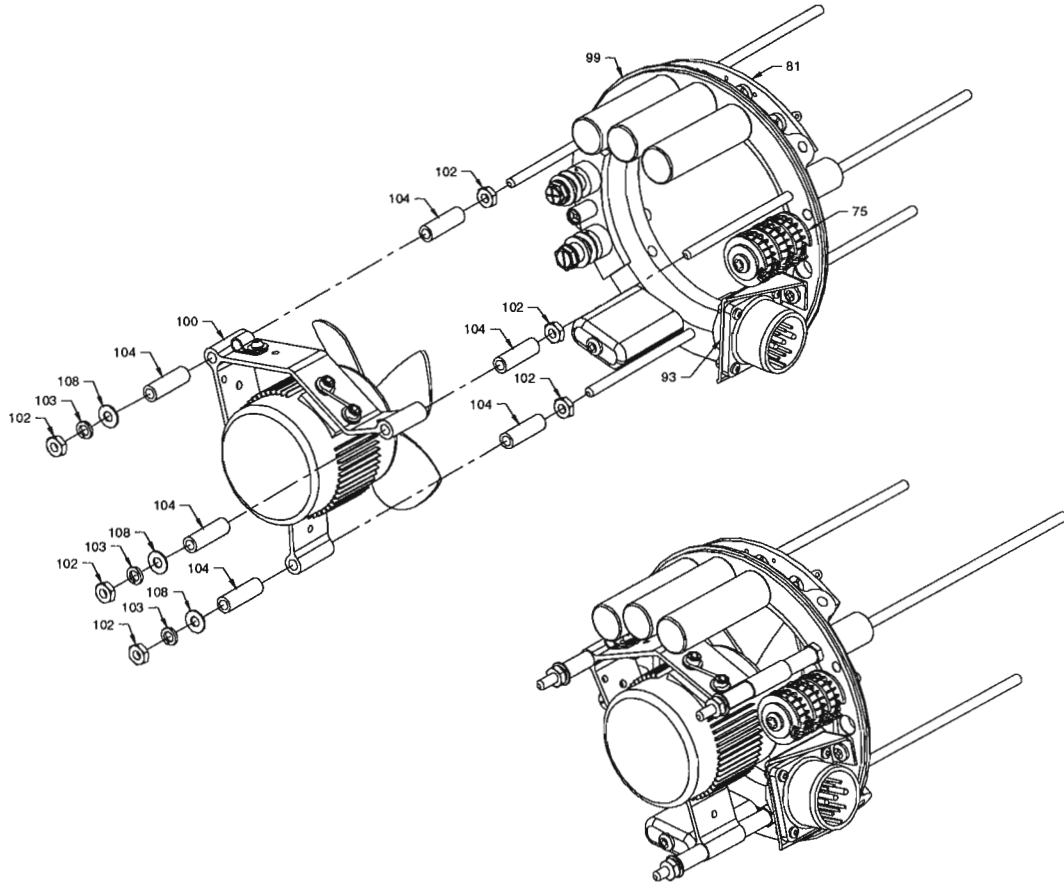

Figure 1. Original Fan Motor Assembly Removal
Disassemble the 28VS200Y-4DH TRU in accordance with the instructions provided in this Service Letter only to the extent necessary to perform the required repair. Numbers in parentheses refer to the Illustrated Parts List, Figure 1 of the De Havilland, Canada Dash-8, Component Maintenance Manual (24-31-46), unless otherwise indicated, and should be referenced for specific procedures and parts identification.
- (1) Remove mounting base (3), end bell (1) case assembly (6) and Nomex paper (if supplied) in accordance with IPL, Figure 1 of Component Maintenance Manual 24-31-46.
- (2) Remove original fan motor assembly (100) wire lugs (112) from AC Terminal Board (81).
- (3) Remove three nuts (102), three lockwashers (103), three flat washers (108) and three spacers (104) from original fan motor assembly (100) as illustrated in Figure 1.
- (4) Remove original fan motor assembly (100) from tie bolts (101).
- (5) Remove remaining three spacers (104) and nuts (102) from tie bolts (101).
- (9) Ensure fan motor air flow direction is correct.
- (10) Install mounting base (3), end bell (1) (torque prevailing torque nuts 10-32 to 10-12 in-lbs.) case assembly (6) and Nomex paper (if supplied) in accordance with IPL, Figure 1 of component maintenance manual 24-31-46.
- (11) Stamp nameplate (9), directly under part number, with the letter "U" to reflect fan motor has been upgraded.